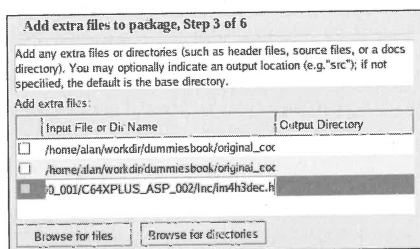

Figure 8-5: Choose extra directories and files to include in the end package.
Step 3 inquires about any extra directories that may be needed to complete the package. If you have header files, source files, or other items in different directories, specify them as shown in Figure 8-5. Adding the codec header file is important if there are extended parameters you need to expose.